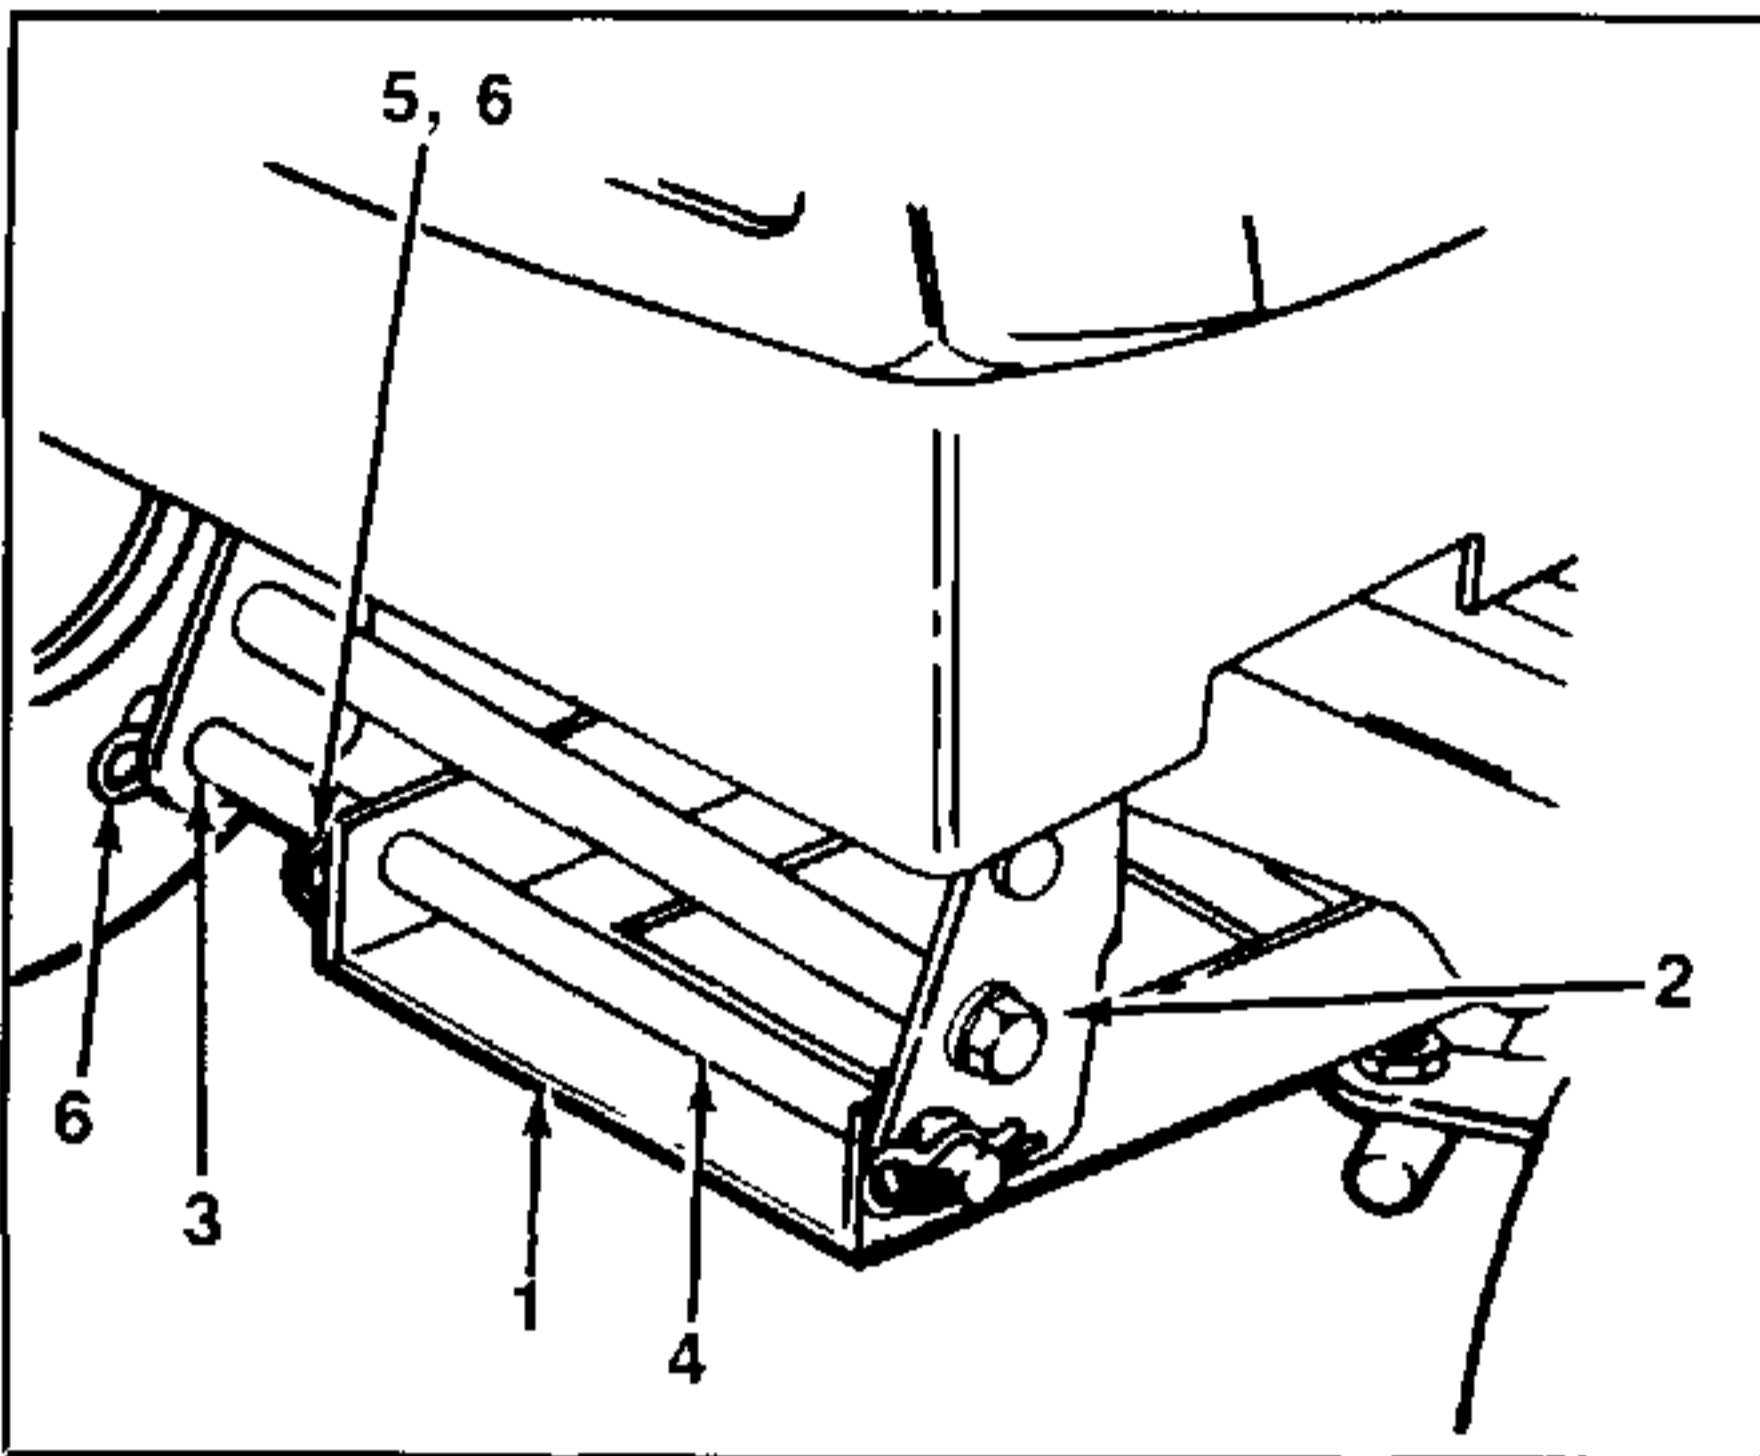

FIGURE 14.
11. With the left front wheel turned to the left, attach the front hanger assembly to the front hanger bracket by passing the tractor hanger rod through the bottom mounting holes of the front hanger bracket. Remember to attach the center flat washer to the rod after it passes through the right side of the front hanger assembly. Refer to figure 14. Secure the tractor hanger rod with flat washer and hairpin cotters.